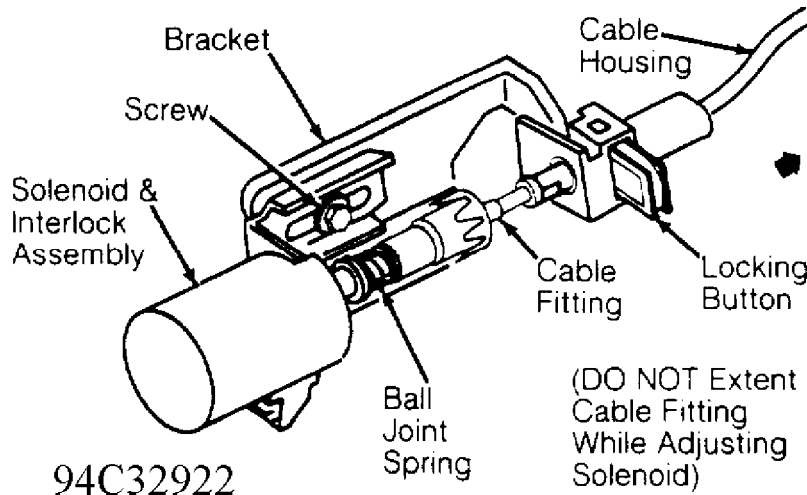

Fig. 5: Adjusting Solenoid & Interlock Assembly (In-Vehicle)
4) Loosen 2 bolts and move solenoid and interlock assembly 1/8" (3.2 mm) toward steering column. Retighten bolts. Activate air bag system. See Fig. 5.